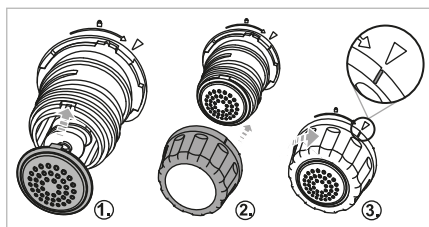

Fig. 5
- 8) Select the appropriate shaping disc **8** (see section **9. Shaping discs**) and slide it onto the bracket **12** so that the two catches on the shaping disc **8** slide into the recesses on the bracket **12** (**fig. 5**).
- 9) Push the shaping disc fixture 14 onto the bracket 12 and tighten it by turning it clockwise towards the  symbol (fig. 5). Fix the shaping disc 8 in place with your free hand if necessary.